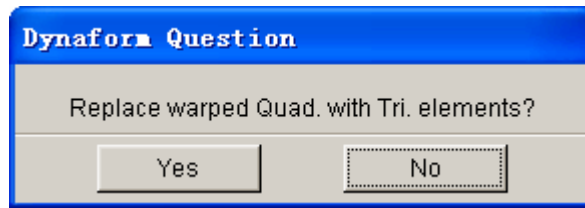

Figure 5.6.6 DYNAFORM Question Window
2. If there are any failed elements, a DYNAFORM QUESTION window appears as in Figure 5.6.6.